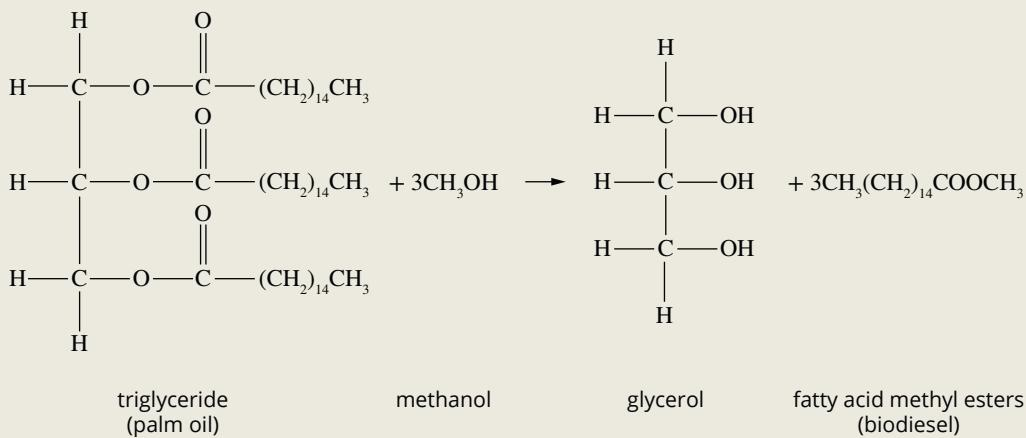

FIGURE 1.3.14 Production of biodiesel.
- Biodiesel is produced from triglycerides in animal fats or plant oils. The triglycerides react with methanol in a transesterification reaction to form biodiesel (see Figure 1.3.14).